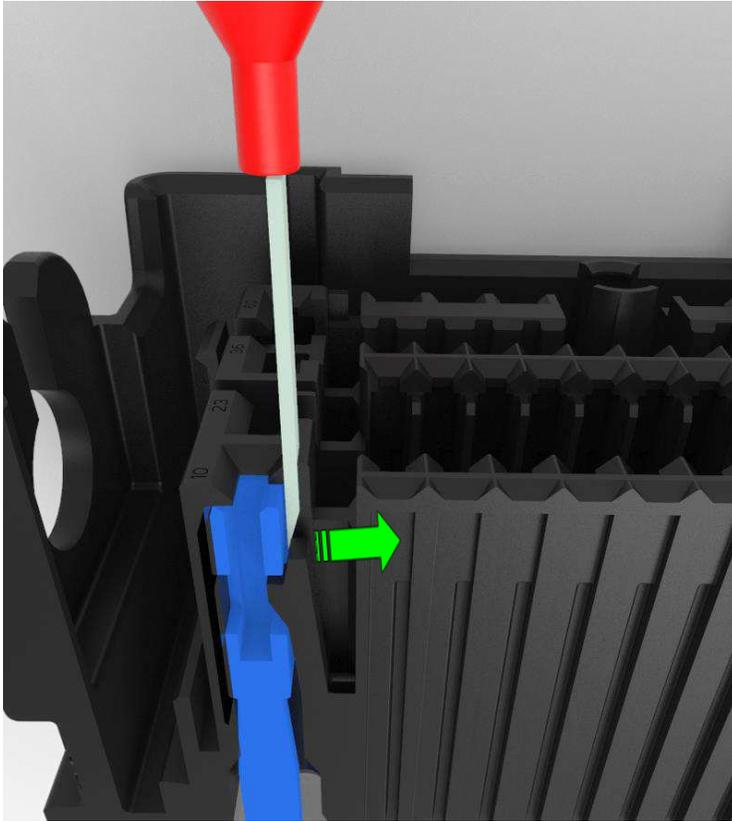

Figure 43
2. Insert the 2.8mm service tool or a small screwdriver into the exposed cavity. See Figure 43.